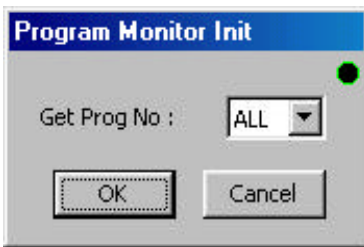

Figure 7.34 “Program Monitor Init” dialog box
Click “*Monitor (M)*” in the “Program Manager” dialog box to display the “Program Monitor Init” dialog box (see Figure 7.34).